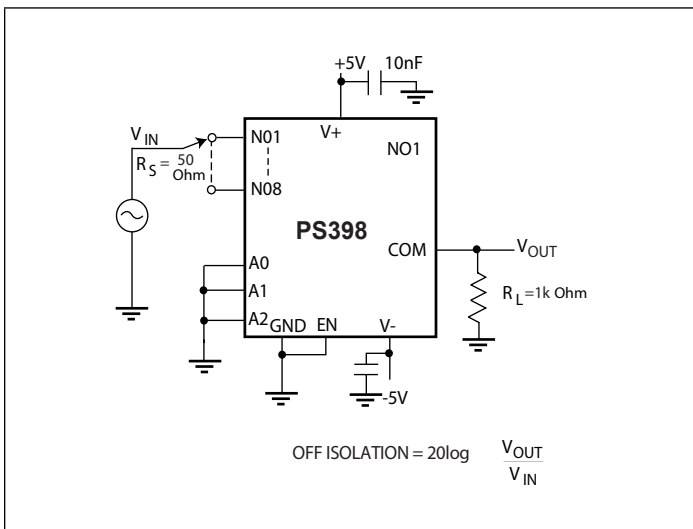

Figure 5. Off Isolation
- Off Isolation = $20 \log_{10} V_{COM} / V_{NO}$. See Figure 5.
- Off Isolation = $20\log_{10} V_{COM} / V_{NO}$. See Figure 5.